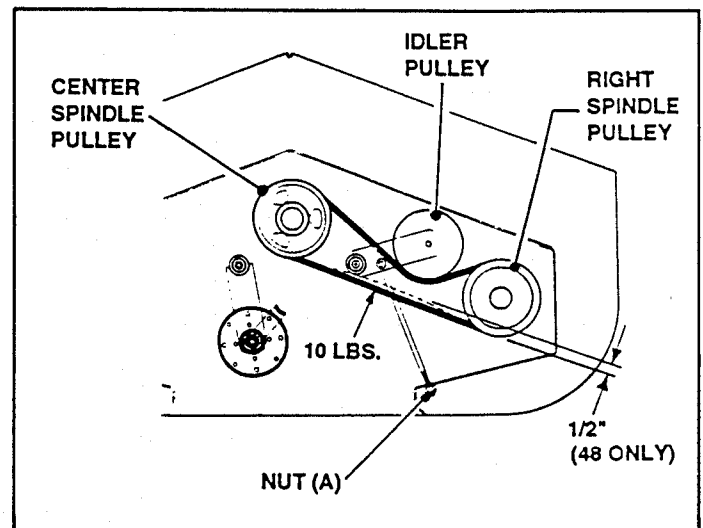

FIGURE 36
1. **STOP ENGINE!** Cutter Deck Belt should move 1/2" with 10 pounds of pressure applied to Belt between Center and Right Spindle Pulleys. **DO NOT OVER TENSION BELT!** See Figure 36.
2. Belt adjustment is made by tightening/loosening nut (A) on Idler Linkage. See Figure 36.